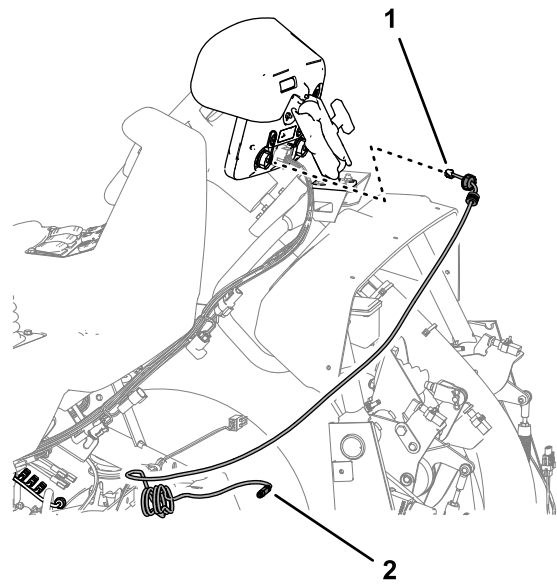
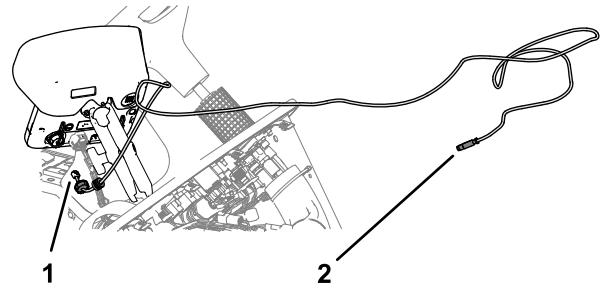

Figure 59
Figure 60
1. Align the modem data harness with the RS-232 connector labeled X-CONSOLE toward the sprayer monitor (Figure 59 or Figure 60).